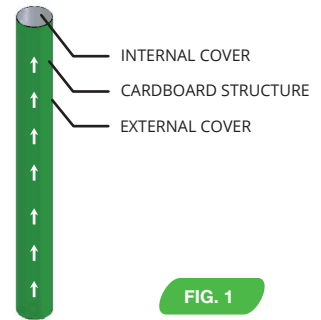

FIG. 1
6. Tubix-T must be held in a vertical position with the relative arrows pointing upwards (see fig.1) by means of suitable supports, without damaging or drilling the formwork: for heights greater than 4m it is sufficient to fix at 2/3 of the height of the formwork itself;